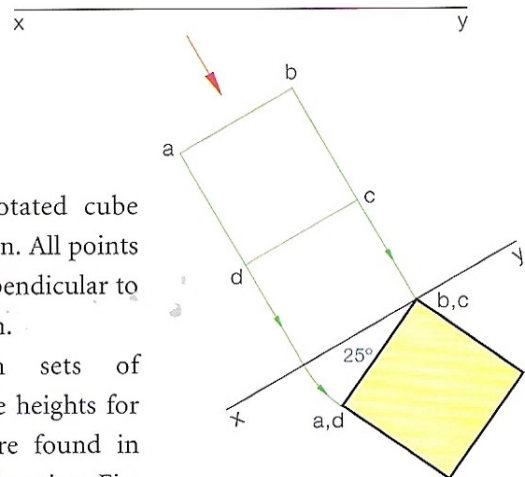

Fig. 5.2
- (2) Edge bc will be the axis of rotation. Project an auxiliary elevation viewing along bc .
- (3) In the auxiliary the cube is rotated to the required angle to the HP, Fig. 5.2.